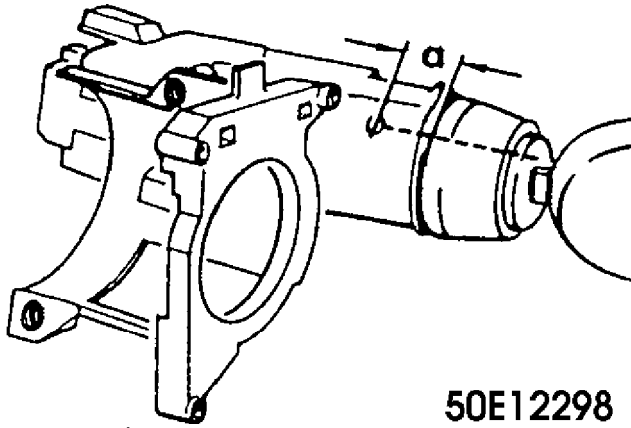

Fig. 1: Lock Cylinder
1) Remove steering column and steering column switch. Insert ignition key in ignition lock. Mark dimension "a" in Fig. 1. on line with key (0.5" (12mm)).